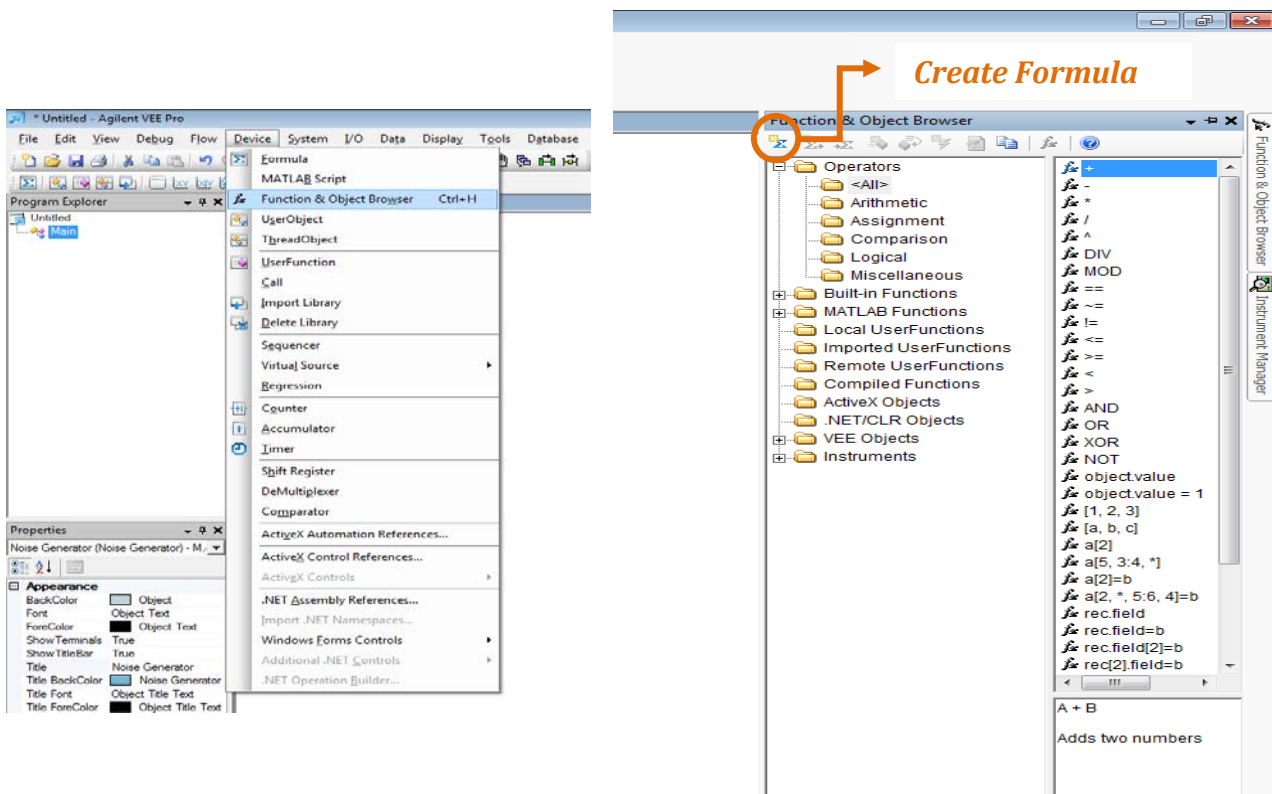

Fig. 8. Function & Object Browser
- At this point, we need an adder to sum the waveforms of the Function Generator and Noise Generator. There is not one way to do this. In this lesson, we will use **Function & Object Browser**. Using Function & Object Browser, it is possible to execute various arithmetic, logical, etc. operations. Select **Menu Bar → Device → Function & Object Browser**. You will see an opened box at the right side of the Work Area as in Fig. 8.
- On the opened box, expand **Operators** and select **<All>** and **+** function at the right. You can see the formula of the selected function at the right bottom corner of the box. Press the **Create Formula** button as in Fig. 8 and place the object in the work area.